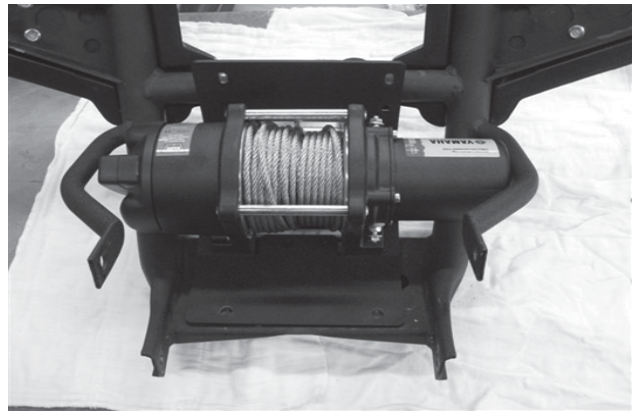

Figure 9
10. Place mounting plate and winch onto the front grab bar. (figure 9)